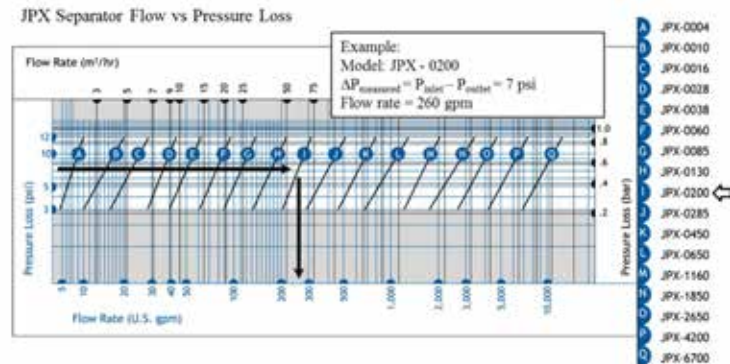

Fig. 17 Flow rate vs. Pressure Loss relationship.
3. For a given pressure differential/loss, read across the chart to your separator model, then down to obtain the flow rate. See figure 17.